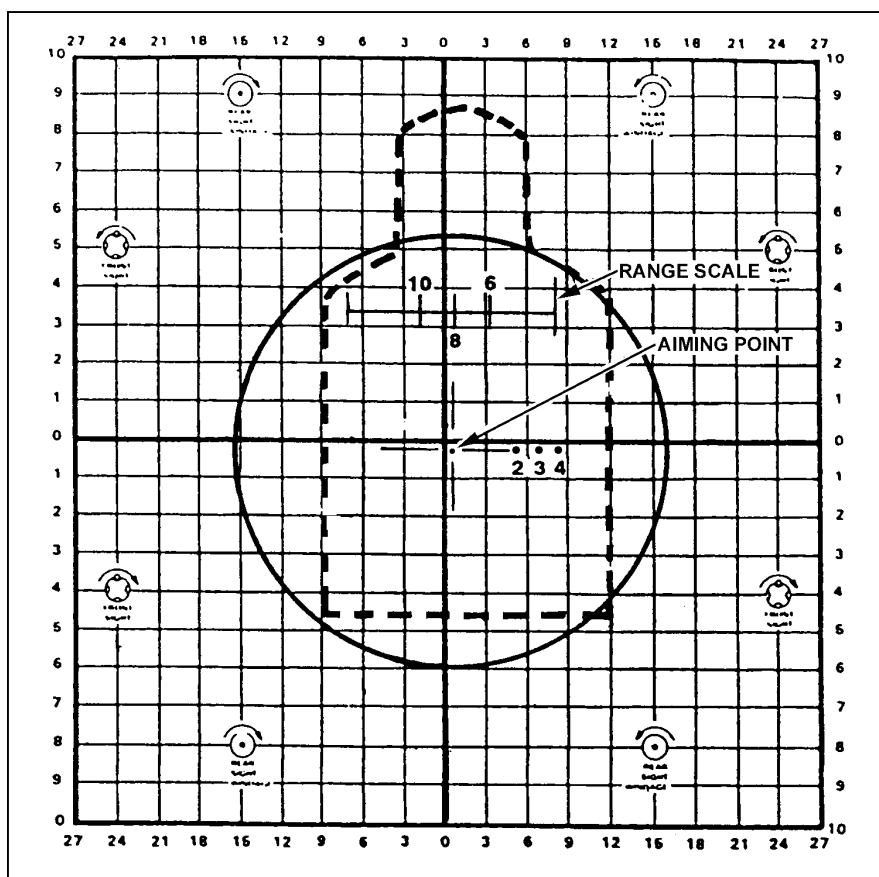

Figure G-62. Reticle aiming point, target aiming point and shot group.
(3) *Confirming the Boresight.* To confirm the boresight, the gunner centers and affixes a 25-meter (M16A2) zero target to the back of a basic machine gun paster target. This provides a large, clear surface for identifying the strike of the round. Then, he emplaces the target 10-meters from the firing position. The gunner places the reticle aiming point on the 25-meter zero target aiming point (Figure G-62) and fires a single round. If the round impacts anywhere near the aiming point, he fires two more rounds to establish his group.